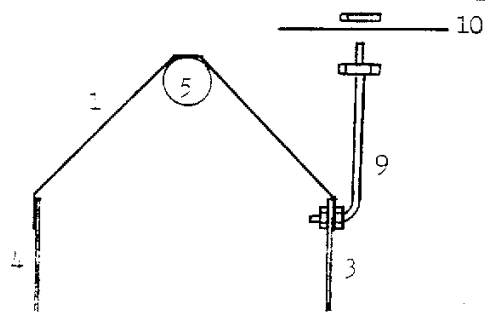

Figure 3
5. If a lower Resonant Point is desired, then you can add the Tuning Rod (9). Put a stop nut on the short threaded end. Then insert in the remaining hole of the Top Plate. (Fig. 3 pg. 6)
6. The frequency adjustment is simply a rotation of the Tuning Rod (9) from straight up (highest resonant point in frequency) to straight down (lowest resonant point), rotating toward the front of the antenna.
7. If a lower range of Resonant Frequencies are needed, then you can add the hat (10). Put a stop nut first, the hat, then a second nut to the tuning bar (9). See figure 3, page 6.